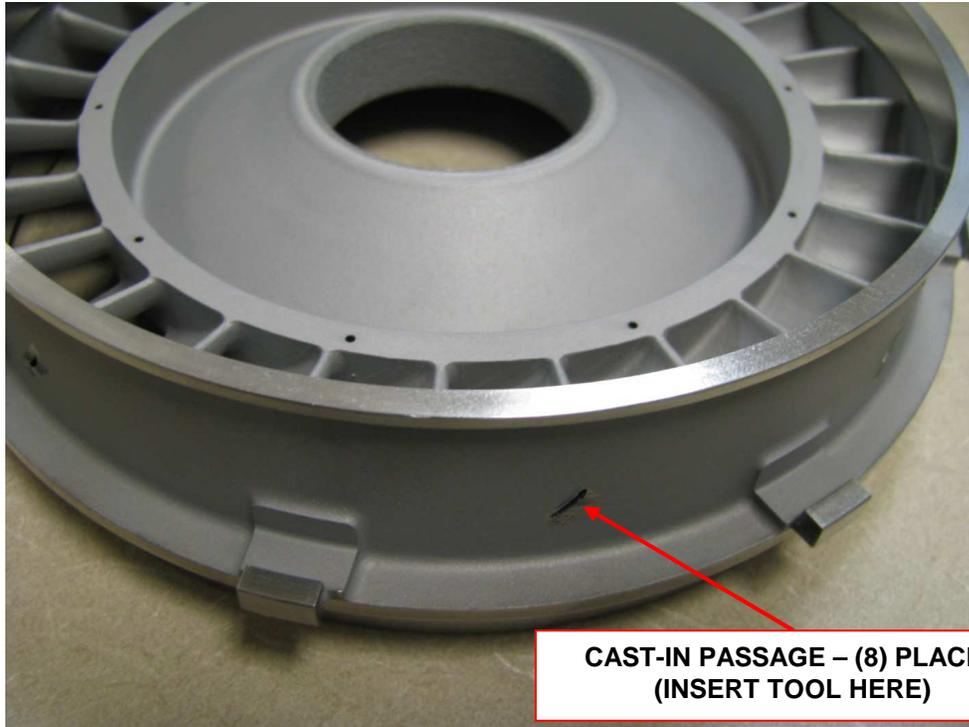

FIGURE 1
At the earlier of 120 operating hours or 6 months from issue date of this ASB, access the 2nd stage turbine nozzle such that the eight (8) cooling passages are visible and accessible (see figure 1). For proper disassembly of the turbine module to access the 2nd stage nozzle, refer to Rolls Royce C20 Series, Operation & Maintenance Manual, Publication No. 10W2, Section 72-50-00, "Turbine Section – Maintenance Practices".
Inspect each passage (ref. figure 1) using either a TAATI supplied tool or locally fabricated tool constructed from .005" shim stock. The recommended design is described in figure 2.